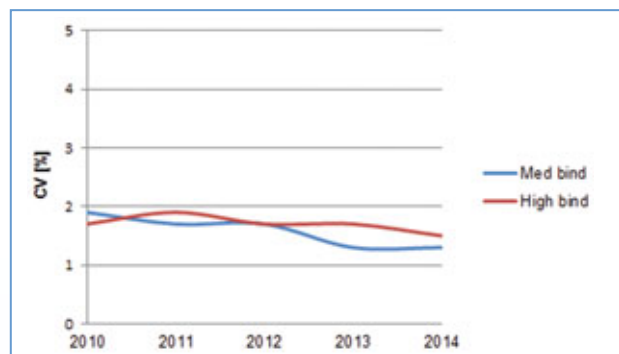

Figure 3: Coefficient of variation (CV) of tested raw material batches from 2010 to 2014 for transparent microplates (med. and high binding)
- For intra-plate homogeneity the coefficient of variation (CV) must not exceed 5 % for colorimetric or 10 % for fluorescence and luminescence assays.
The main criterion for our ELISA microplates is a stable coefficient of variation (CV) from batch to batch which is monitored over a long period (Fig. 3).